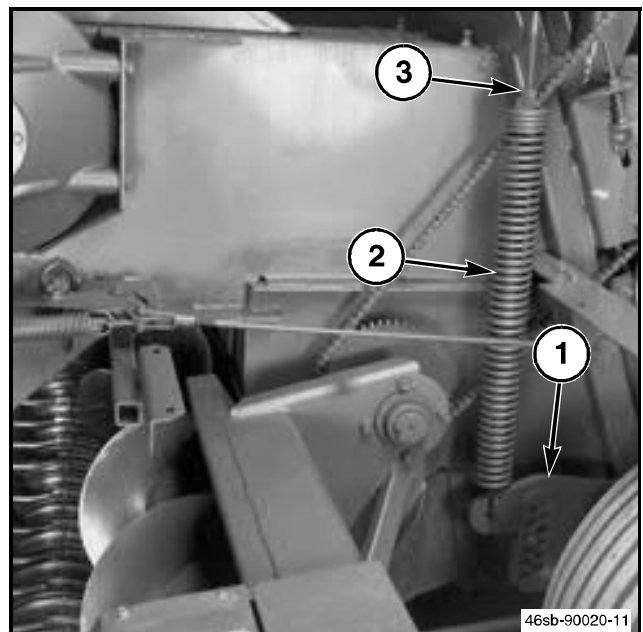

FIG. 8
FIG. 8: The pickup height adjustment gauge plate (1) controls the height of the tines above the ground. The gauge plate gives several height settings for the pickup assembly. Set tine height according to instructions in the Adjustments Section.